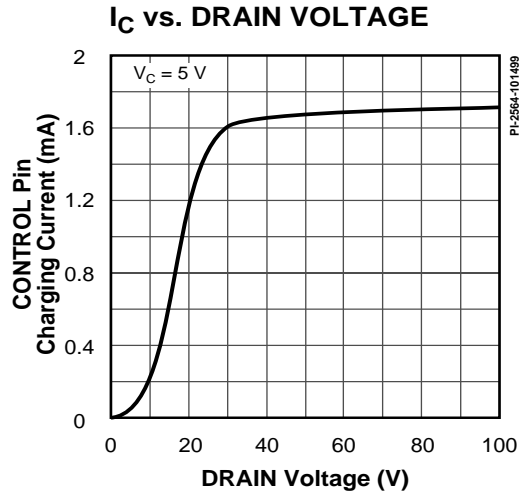

Figure 67.  $I_C$  vs. DRAIN Voltage.
- D. It is possible to start up and operate *TOPSwitch-GX* at DRAIN voltages well below 36 V. However, the CONTROL pin charging current is reduced, which affects start-up time, auto-restart frequency, and auto-restart duty cycle. Refer to Figure 67, the characteristic graph on CONTROL pin charge current ( $I_C$ ) vs. DRAIN voltage for low voltage operation characteristics.